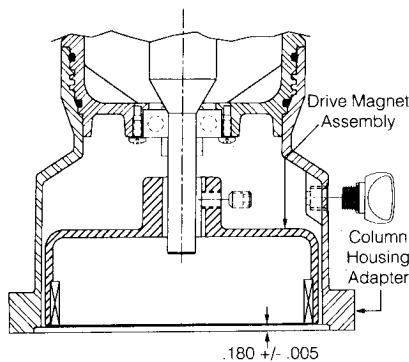

Figure 1
11. Place the drive magnet assembly (item 14) over the drive shaft until it is recessed .180" +/- .005" as measured from the top of column housing adapter to the top of the drive magnet assembly. See Figure 1. Use a 3/16" Allen wrench to tighten the (2) set screws (item 14a) to 70 in.-lbs. (7.9 N-m). Access the set screws through the access hole in the column housing adapter. Replace the access plug.